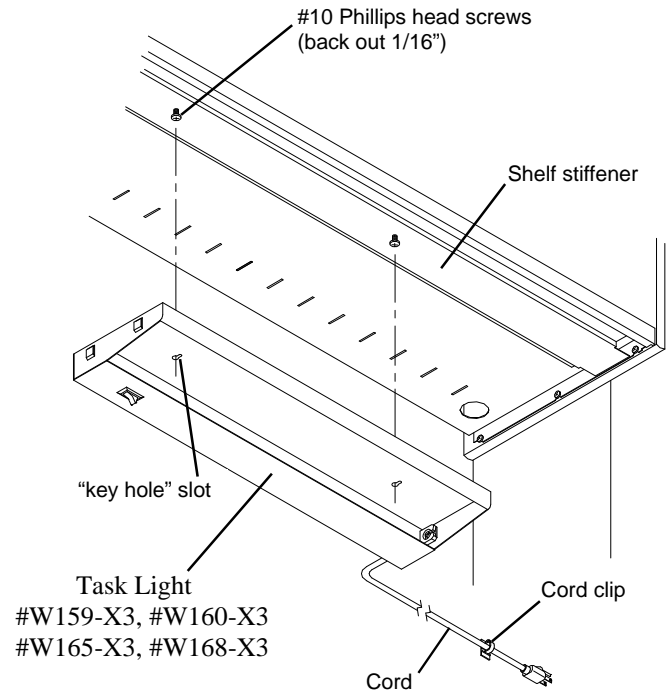

Figure 7
1. Locate any two screw holes in the Shelf stiffener that are 16" apart. Install two #10 x 3/8" Phillips head sheet metal screws partially into the holes, leaving them protruding approximately 1/16". See **Figure 7**.